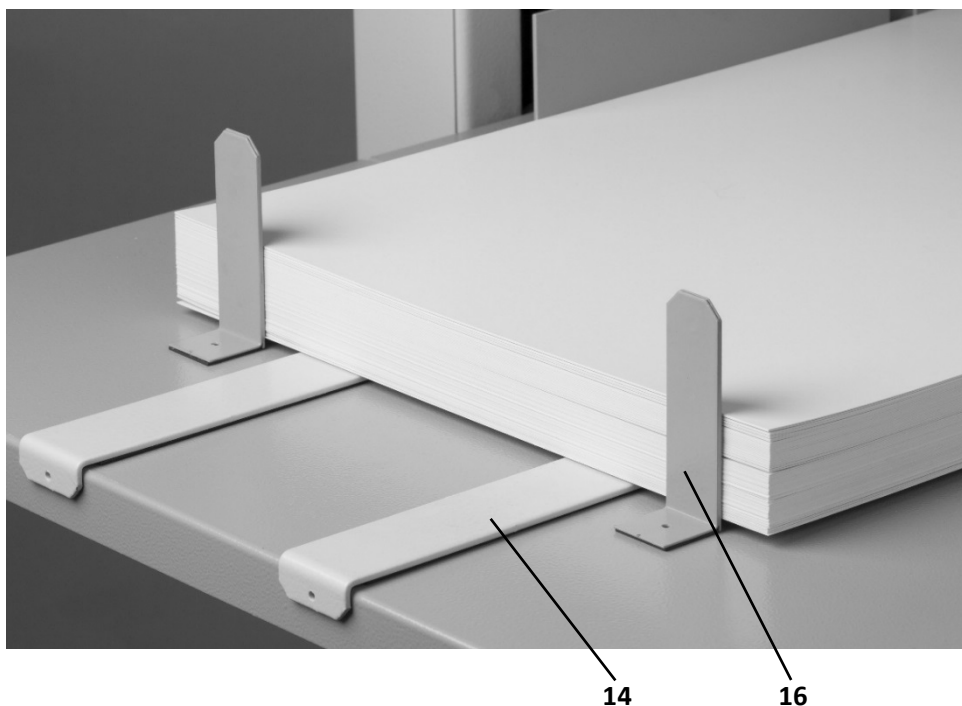

Fig. 8: Levelling Strips and Front Stops
| 3 – Separator position regulation screw | 16 – Front stop (Fig. 8) |
Front stops (16) must be placed on the feeding table behind the paper for the feeding to run properly (Fig. 8).